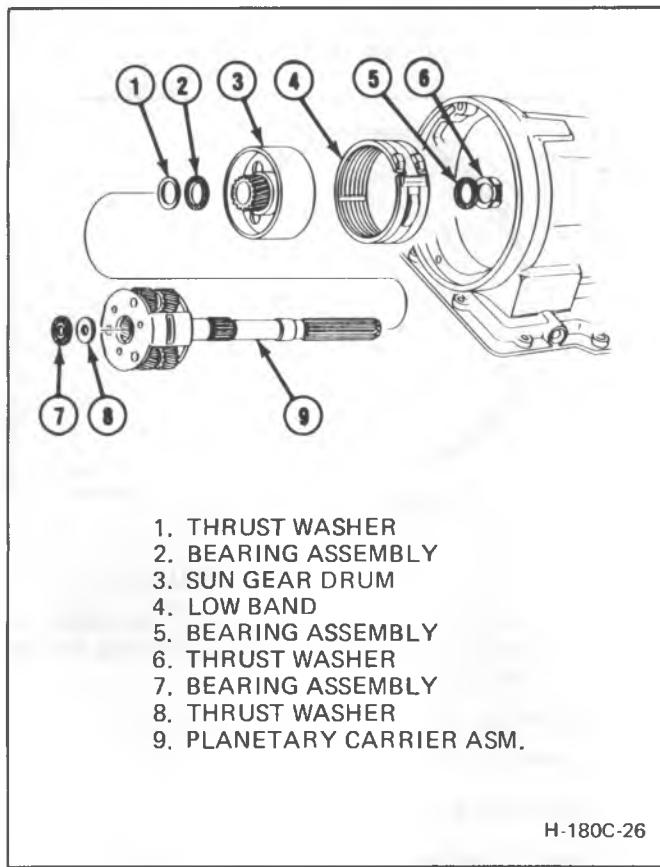

Figure 20 Installing Planetary Carrier
**Install or Connect (Figure 20)**